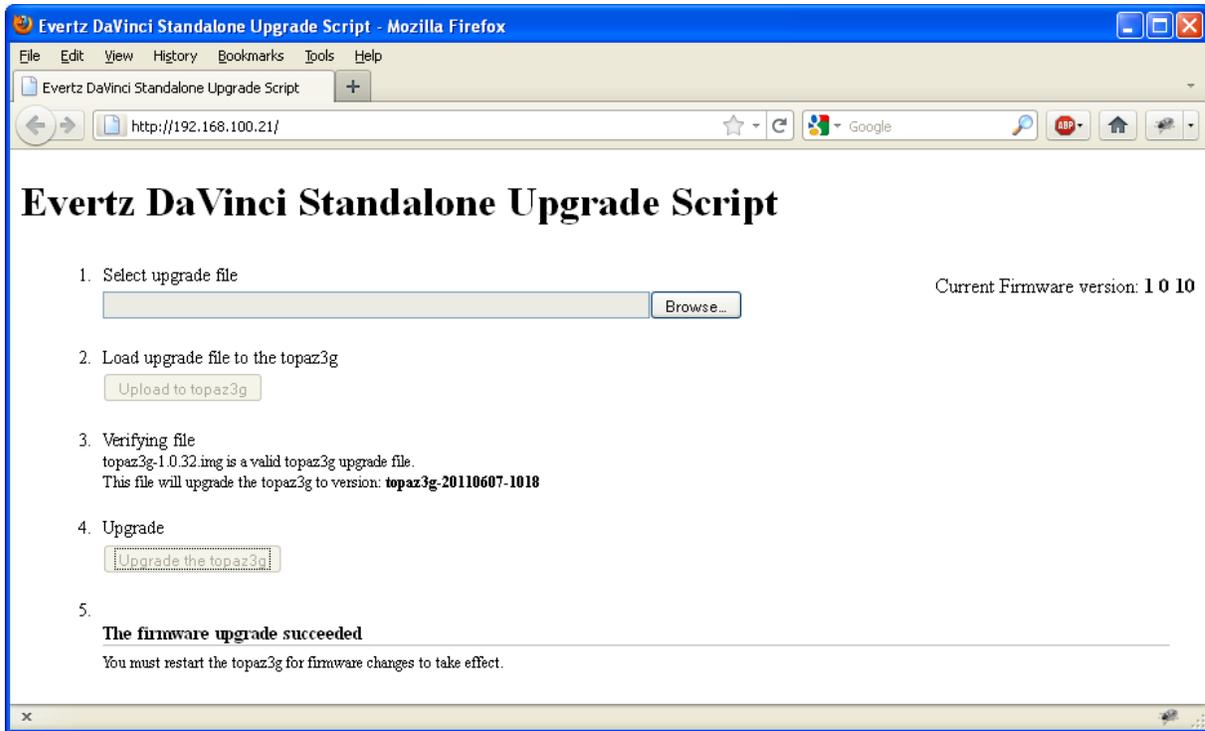

Figure 7-4: EQT Upgrade Screen for Success
4. After pressing the *Upgrade* button, the EQT will be upgraded. Once complete, a message indicating that the upgrade was successful will appear at the bottom of the screen as shown in Figure 7-4. Once this message appears, restart the EQT as instructed.